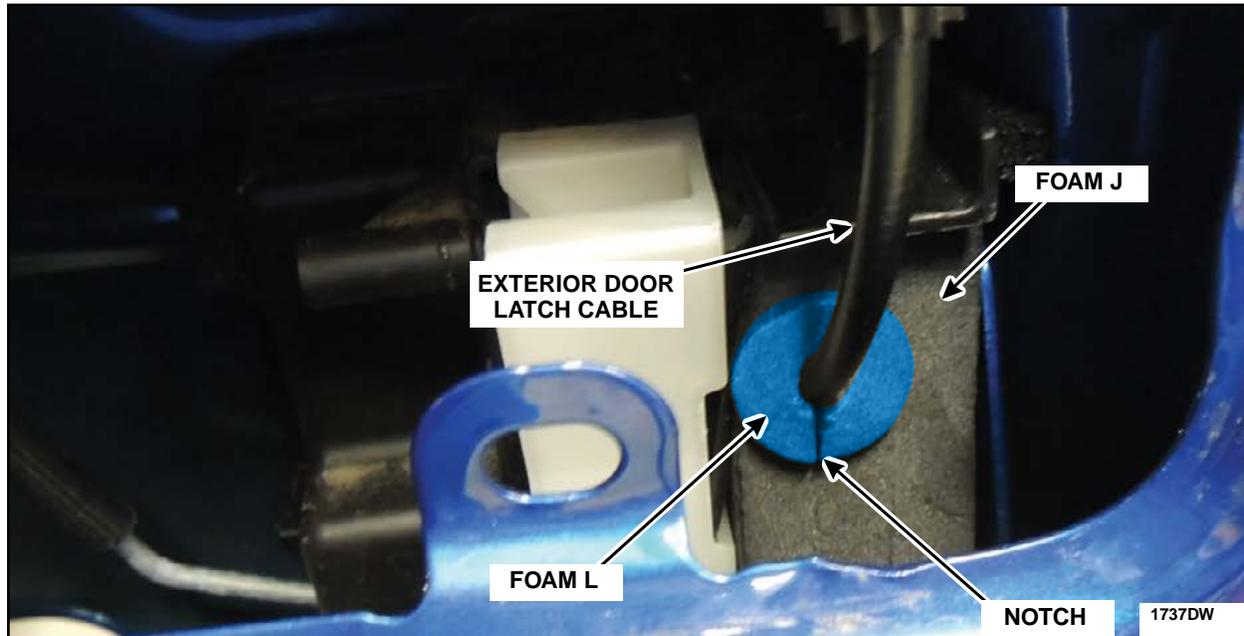

FIGURE 78
2. Install Foam L over the door latch cable and onto Foam J to cover the gap between the exterior door latch cable and Foam J. See Figure 78.